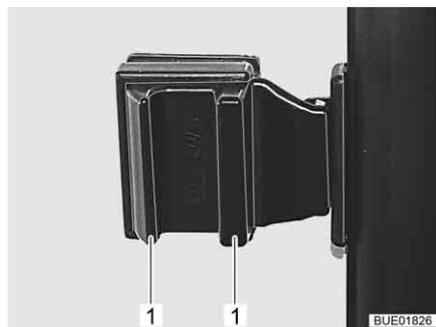

Fig. 115 Sliding window with pressure lock
- Press the handles (Fig. 115,1) together and hold them in place.